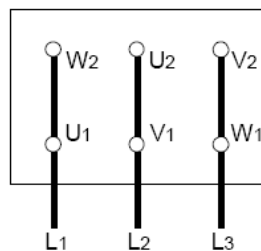

Fig. 7a. Δ - connection
- The mains connection on the tagboard depends on the nominal power of the motor, the power supply and the type of connection. The necessary connection of the bridges in the terminal box is shown in the following (Table 2 and Fig. 7a, 7b, 7c).